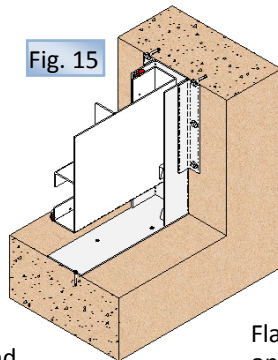

Fig. 15
- In order to install the penstock using chemical or expansion anchors (**fig. 15**), position it in the channel, also taking care to ensure that the gate seal is downstream. Using the holes of the body of the penstock as a guide, make the boreholes in the channel for the chemical or expansion anchors. Remove the penstock and apply sealing paste such as SIKAFLEX-11FC or similar in order to prevent leakages between the body and the channel. Return the penstock to its location and screw down using the chemical or expansion anchors. Take care to screw crosswise and without excessive force, in order to ensure the penstock does not become deformed.